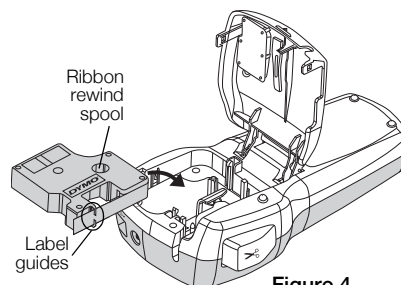

Figure 4
- 2 Make sure the tape and ribbon are taut across the mouth of the cassette and that the tape passes between the label guides. See Figure 4.